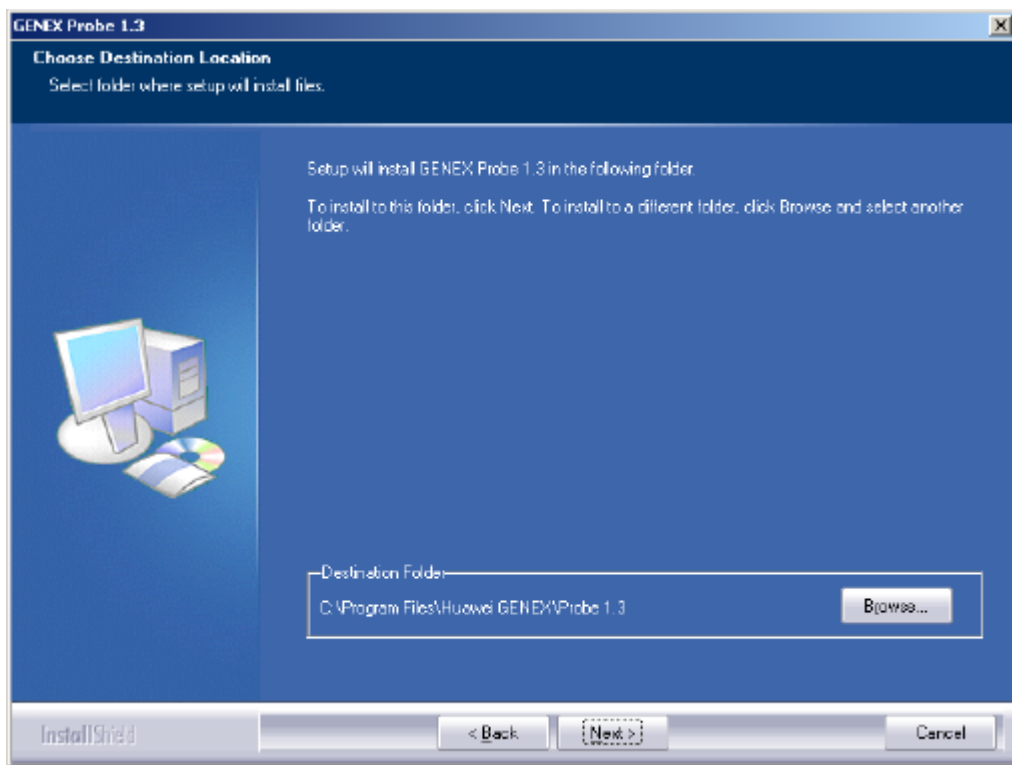

Figure 4-3 Choose Destination Location dialog box
- 4) Choose the destination location in the **Choose Destination Location** dialog box, as shown in Figure 4-3.